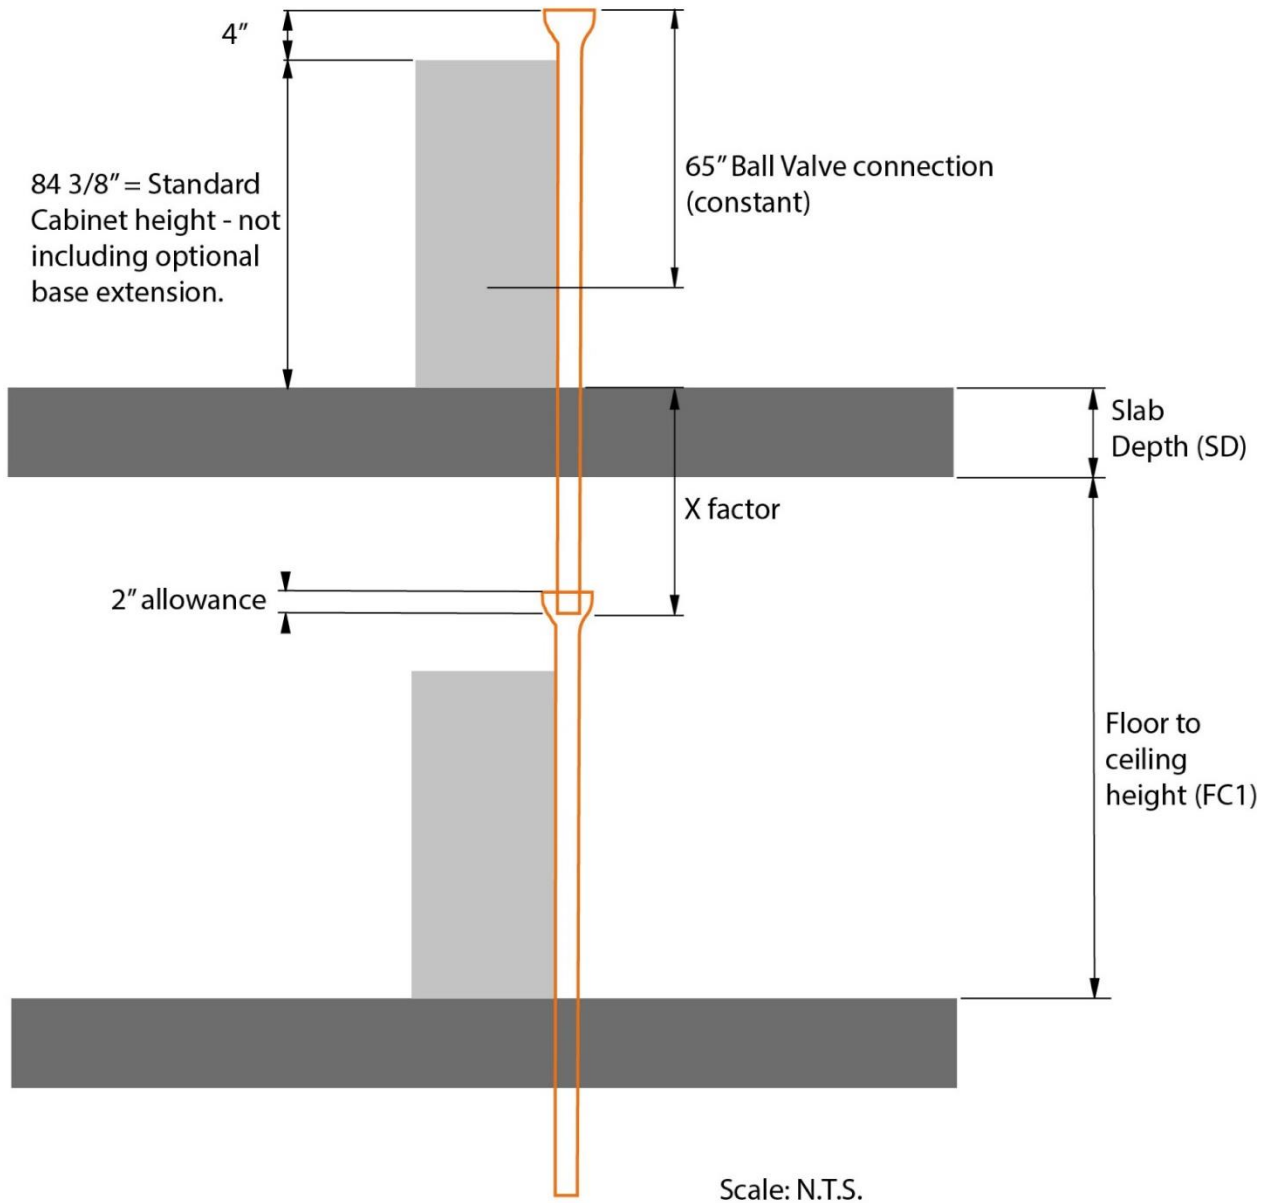

Figure 6
5. Refer to **Figure 6 (pg. 9)** for positioning of risers pertaining to floor-to-floor installment. The riser diameter shall be shown on plans. Riser length and schedule shall be coordinated with the mechanical contractor.